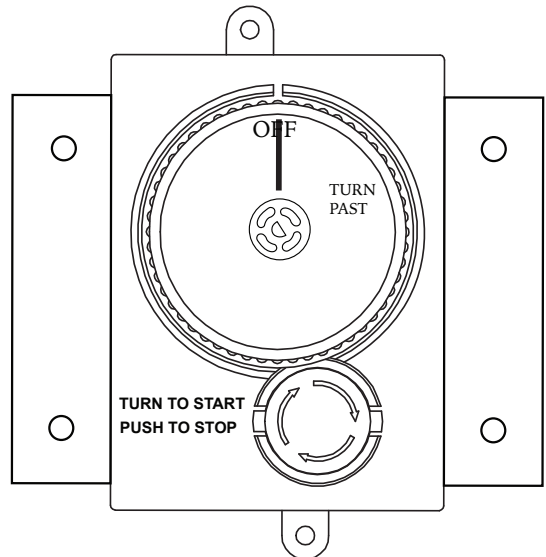

Fig. 2 Shows front view of gas timer with mounting brackets installed.
Step 2: After brackets are installed, the gas timer should look like Fig. 2.